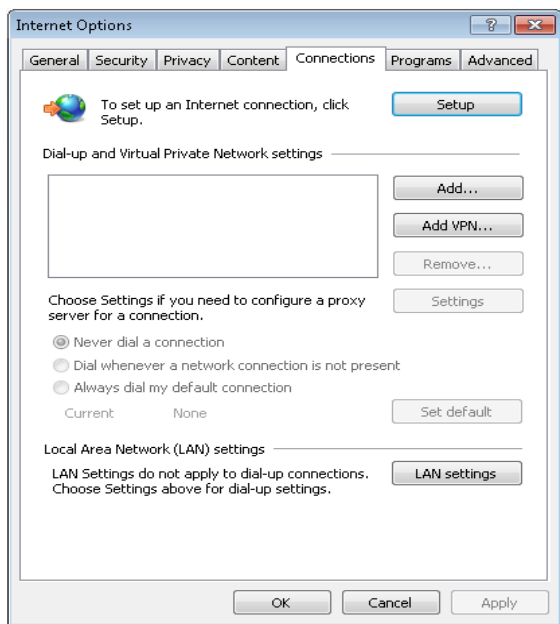
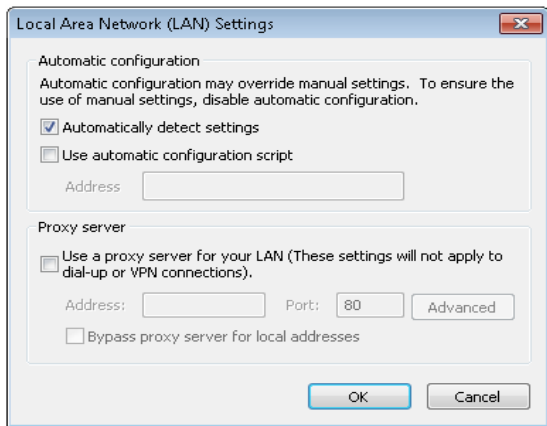

Figure 3-2 Choosing the Connections tab
Figure 3-3 LAN setting
1. Double-click the icon of IE to run the software, click the menus of **Tools -> Internet Options** and then choose the **Connections** tab to pop up the window shown in Figure 3-2.
2. In the window shown in Figure 3-2, click the button **LAN Settings** to pop up the window shown in Figure 3-3.